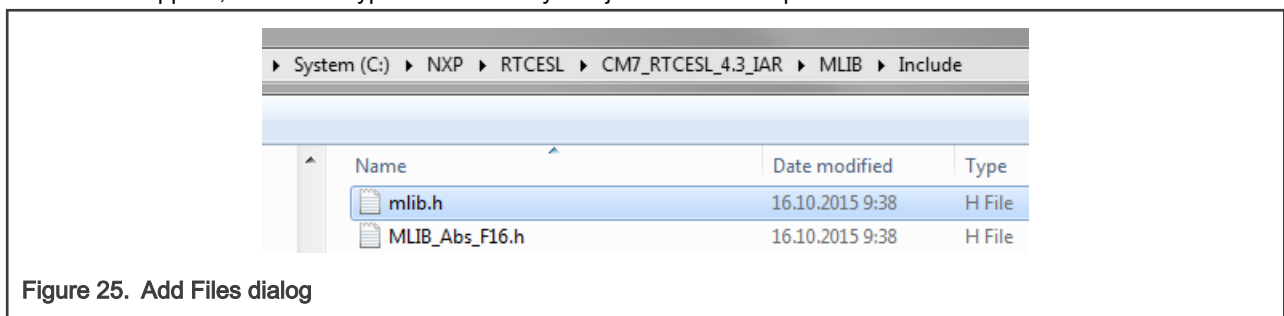

Figure 25. Add Files dialog
- Navigate into the library installation folder C:\NXP\RTCESL\CM7_RTCESL_4.7_IAR\MLIB\Include, and select the *mlib.h* file. (If the file does not appear, set the file-type filter to Source Files.) Click Open. See Figure 25.